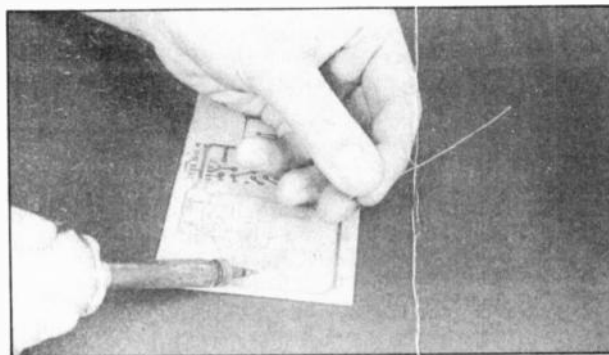

Figure 4. Solder just beginning to melt onto the copper track around the hole of a PCB. When this occurs you know that the joint is hot enough
- Touch the end of a length of solder to the other side of the hole which the component lead goes through, and wait for it to melt (see Fig.4)